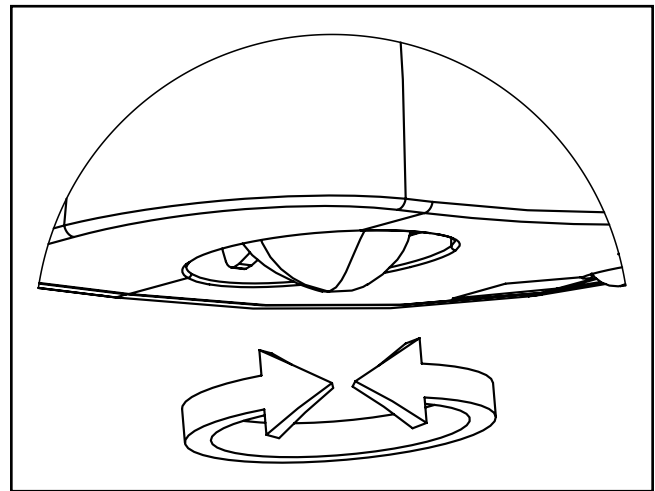

**Figure 1.**
2. Open the emergency light by inserting a flat-head screwdriver in the slots on the sides of the unit, then turning to separate the housing from the backplate. It is recommended to open at least one on each side of the unit. (See Figure 1)